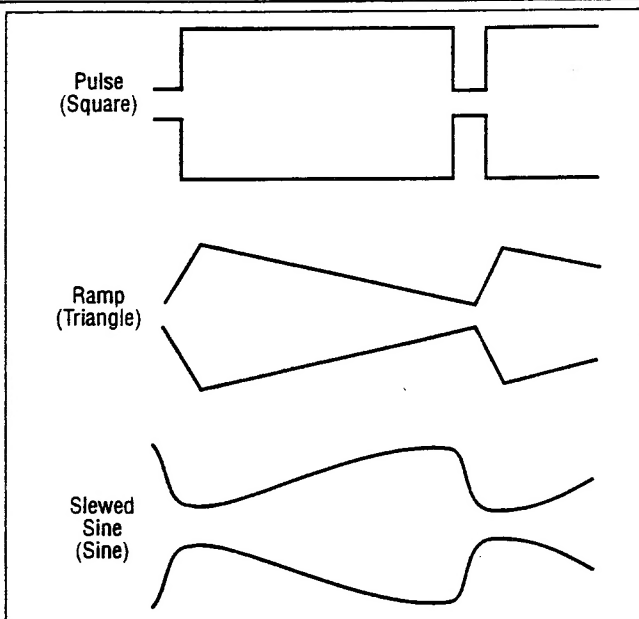

Figure 4. Effects of Symmetry Variation.
The **DUTY CYCLE** control can be used to alter the symmetry of the output waveform, to produce waveshapes such as those shown in Fig. 4. For a square wave, symmetry variation amounts to changing the duty cycle (ratio of "high" to "low" time), effectively converting the instrument into a pulse generator. For a triangle wave, the result is a ramp, and with a sine wave, a distorted waveshape called a slewed sine is produced. The Model 4011A provides for symmetry variation from 15% to 85%.
2. Engage the **DUTY CYCLE** switch (14) and adjust the **DUTY CYCLE** control (10) for the desired waveshape. Clockwise rotation from center results in an increase in square wave duty cycle, and changes the sine and triangle waves as shown in the top waveform of each pair of Fig. 4. Counter-clockwise rotation results in the bottom waveform in each pair.